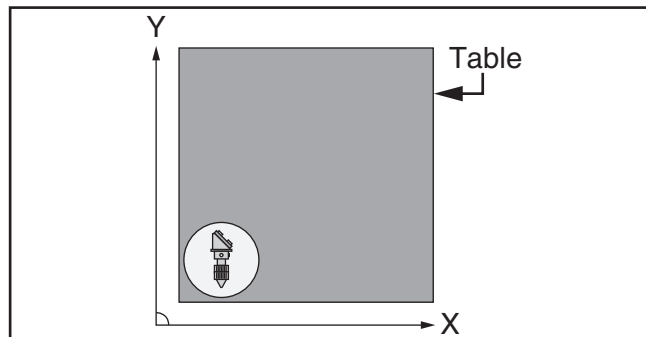

Figure 111. Laser head assembly in lower left corner of table.
17. Move laser head assembly to lower left corner of table (see **Figure 111**).